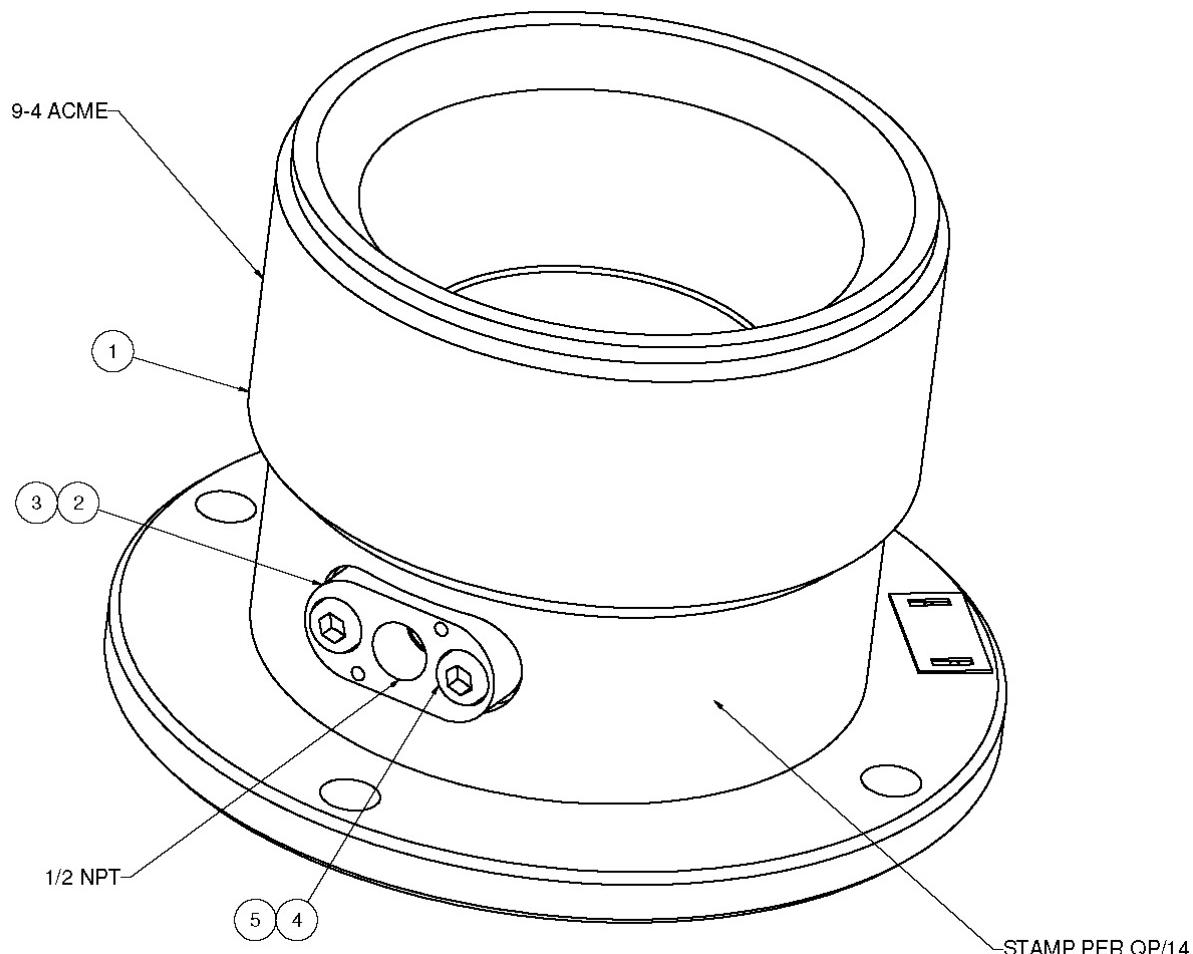

Figure 3: Test Stump 185-3888 HV0
**Note:** Thread protectors (item 99) not shown on Assembly Drawing (Figure 3)